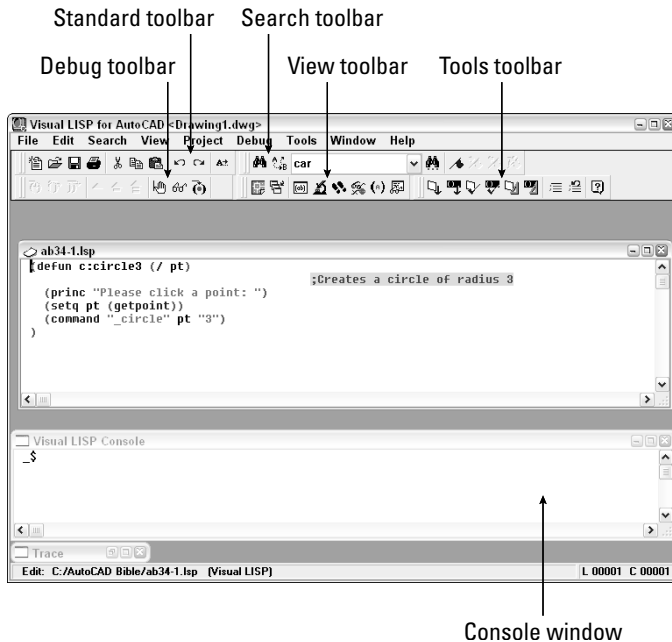

Figure 34-1: An AutoLISP file open in its own window in the Visual LISP window.
To start Visual LISP, you can either type **Vlisp** ↵ at the AutoCAD command prompt, or choose Tools ⇨ AutoLISP ⇨ Visual LISP Editor. At any time, you can switch to Visual LISP using either of these methods. Figure 34-1 shows the Visual LISP screen with a file open.
3. Click Open. Visual LISP opens the file in its own window, as shown in Figure 34-1.